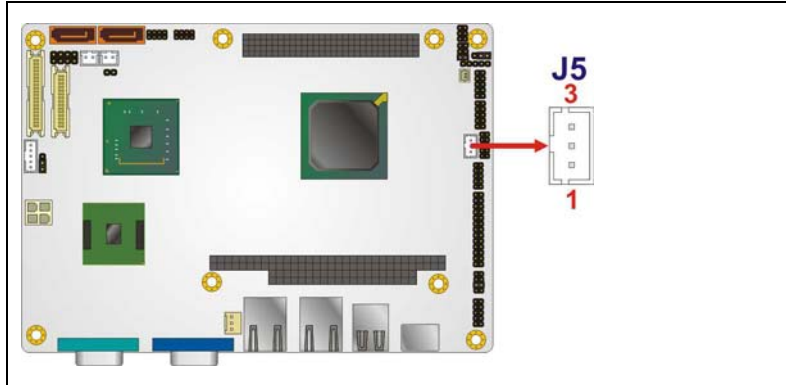

Figure 3-3: PS ON and +5V Standby Power Connector Pinouts
- CN Location:** See **Figure 3-3**